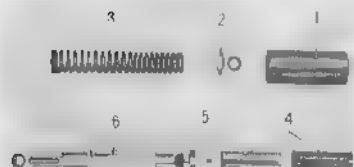

Fig. 4.79 Component parts of rear cushion
3. Remove the rear cushion components parts (Fig. 4.79)